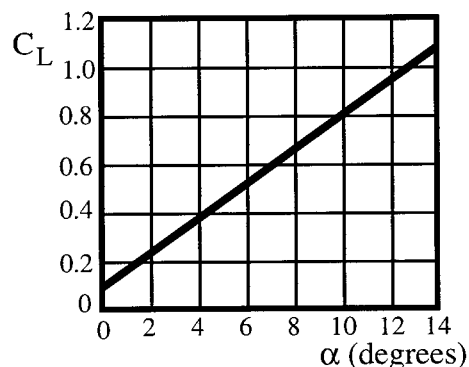

Figure 1.
- (a) Figure 1 below shows the variation of the lift coefficient with angle of attack for an aircraft wing.
- The characteristics of the wing are given below in Figure 1. Using this graph, estimate the angle of attack required to keep the aircraft in stable flight.